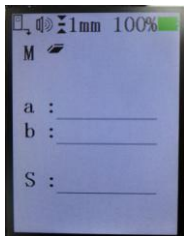

Figure 11
9.3.1 Short press the key  once in the routine measurement to enter the area measurement, as shown in Figure 11; press the key  to light up the laser, and press the key  to clear the last measurement;